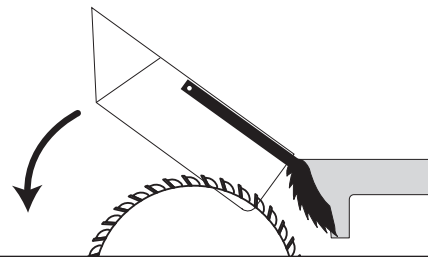

Figure 46. Typical ripping operation.
10. Use a push stick to feed the workpiece through the saw blade, as shown in **Figure 46**, until the workpiece is completely beyond the saw blade.